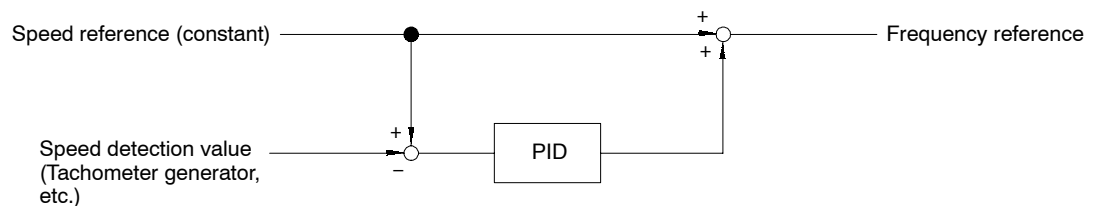

Fig 7.25 Application Example of Settings 3 and 4
- Figure 7.25 shows a speed control application example for settings 3 and 4 (for SPC:F).